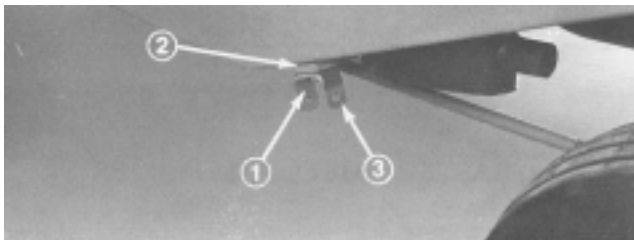

Figure 5
3. Remove the capscrew and flange nut securing the front engine support to the frame. Secure the belly shield hanger and engine support to the frame with a capscrew (3/8 x 1-1/4 in.) and flange nut. Repeat the procedure on the opposite side of the machine (Fig. 5). Discard the capscrew (3/8 x 1 in.) removed (gas units only).